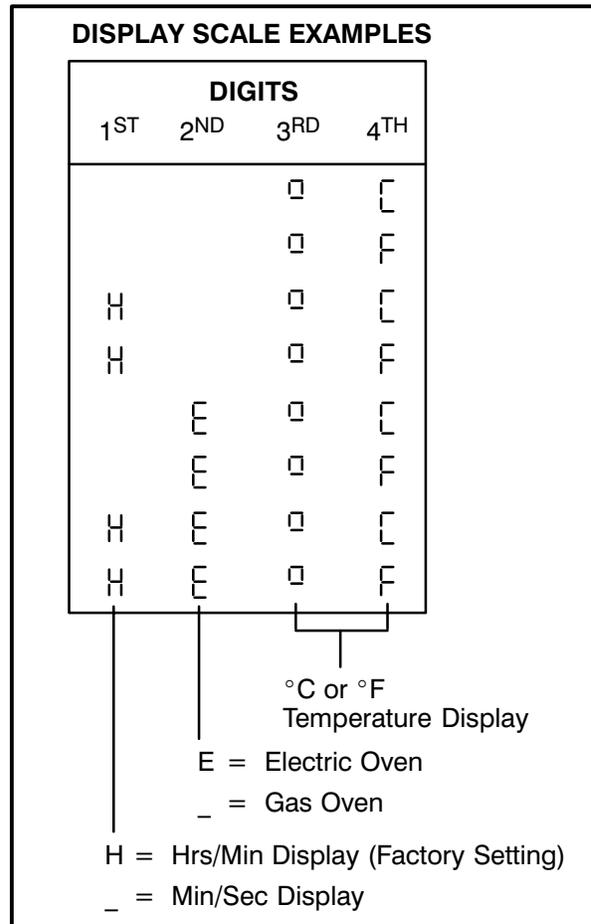

FIGURE 9
2. The control displays the current setting from the following menu. See FIGURE 9. This menu controls 3 separate parameters: